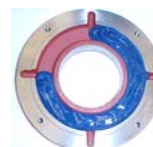

Figure 7.3: Outer bearing cap
- Fill up to  $\frac{3}{4}$  of the inner and outer bearing cap deposits with the recommended grease (Figure 7.3) and lubricate the rolling bearing with enough grease before assembling it;